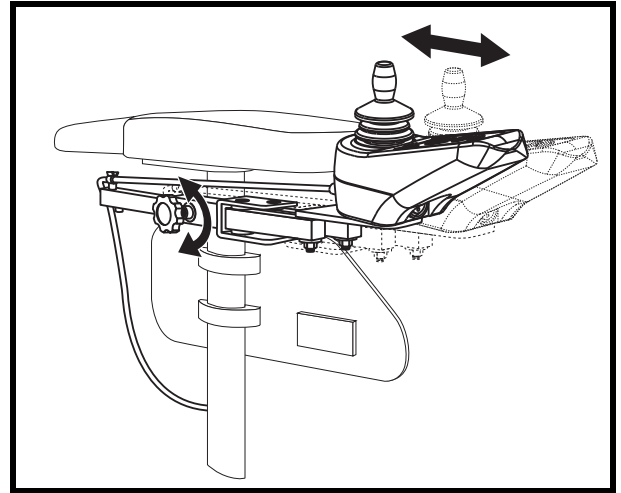

Figure 18. Controller Position
4. Loosen the adjustment knob on the armrest where the controller is currently located. **See figure 18.**